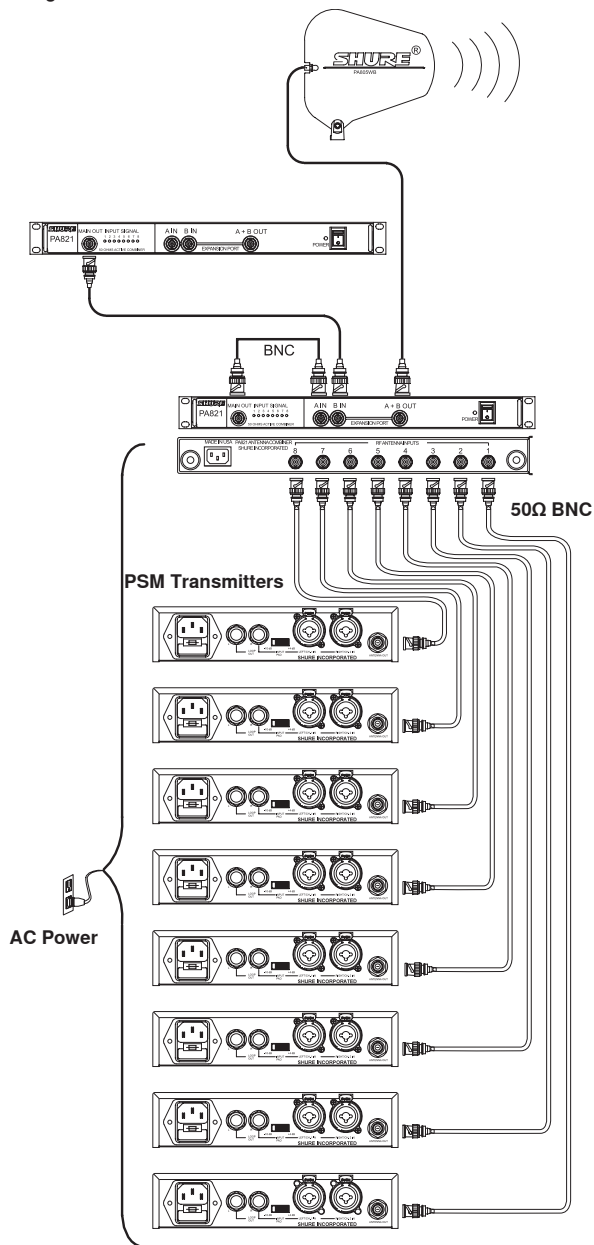

FIGURE 3
- Attach an antenna to the **A + B OUT** of the Expansion Port. For wideband applications, use the PA805-SWB directional antenna, Figure 3.